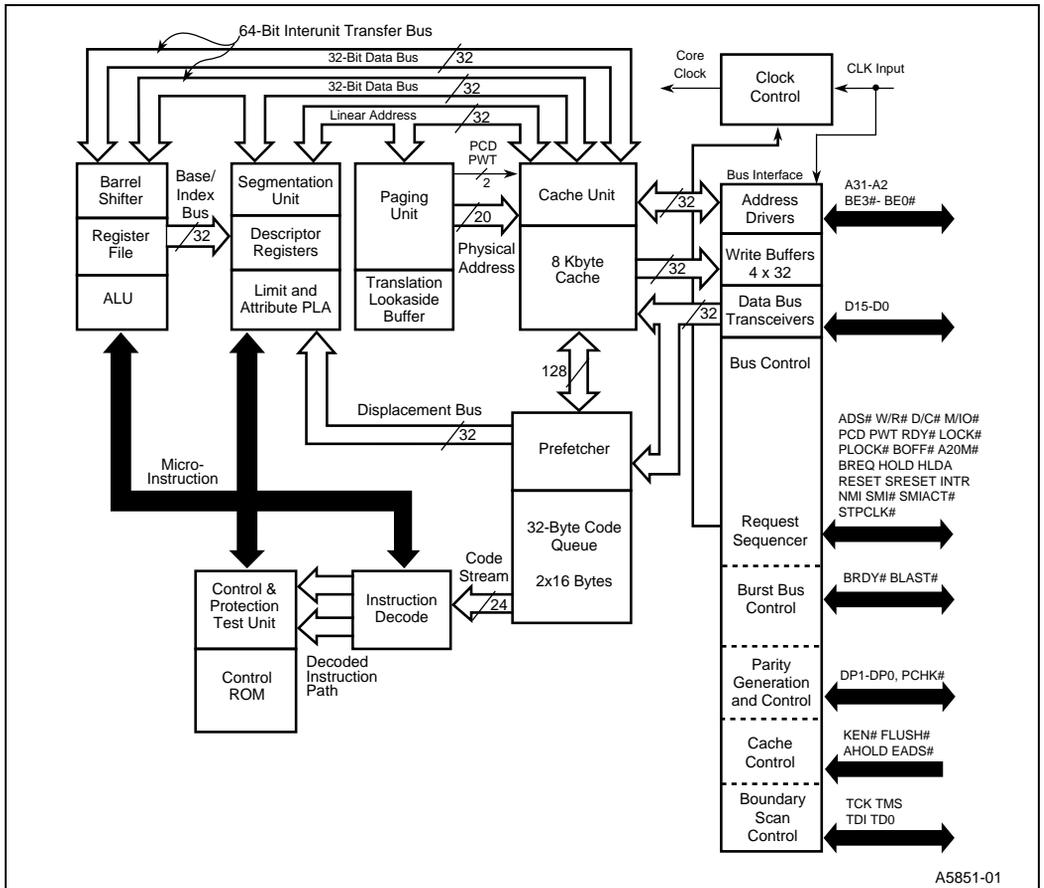

Figure 1. Embedded Ultra-Low Power Intel486™ GX Processor Block Diagram
- Figure 1. Embedded Ultra-Low Power Intel486™ GX Processor Block Diagram i